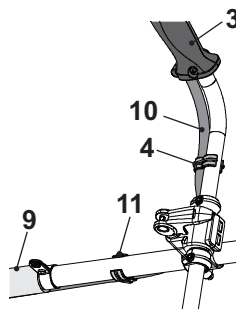

Fig. 7
5. Attach the electric cord (10) with the cord clip (smaller) (4) on the right-handle bar (3), the cord clip (bigger) (11) on the upper pole (9) (Fig. 7).